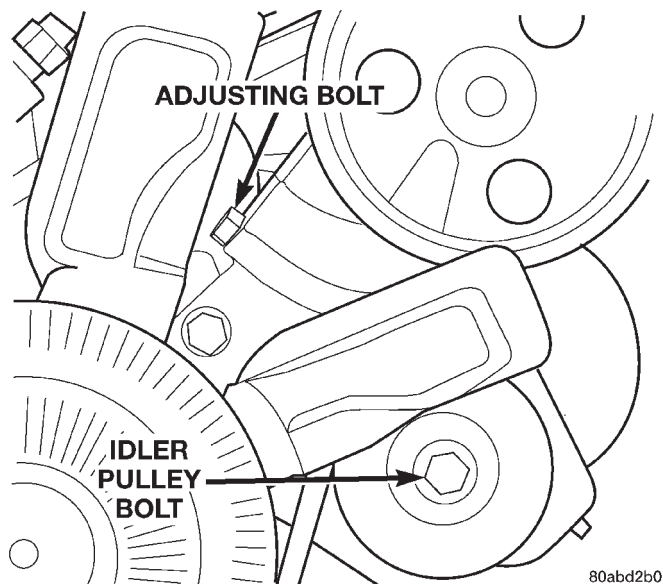

Fig. 33 Power Steering Pump Bracket and Idler Pulley
(3) Loosen idler pulley bolt (Fig. 33).
(4) Adjust tension adjusting bolt (Fig. 33) until reading is within specification.
(5) Tighten idler pulley bolt and re-check belt tension. Adjust if necessary.